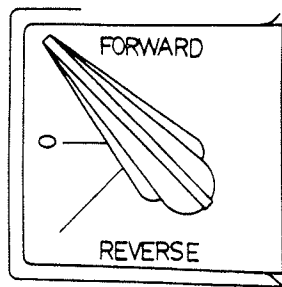

Figure 9
- a. Power to the motor is controlled by a three way switch, forward, reverse and off. (Fig. 9). When the high-low speed change lever (fig. 3 (J), Page 3) is in high gear position and the switch is in FOR., the spindle rotation is clockwise, when the switch is in REV. the rotation is counter clockwise.